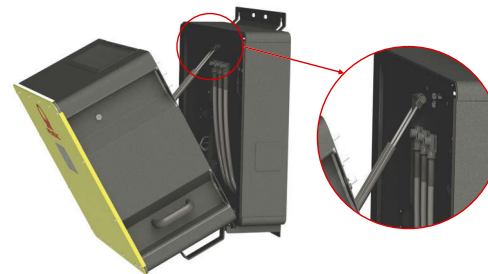

Fig. 18: Attaching the hydraulic cylinder to the Connection Box
3. One person should hold the inverter while the second inserts the hydraulic cylinders into the slot of the Connection Box (see Fig. 18).